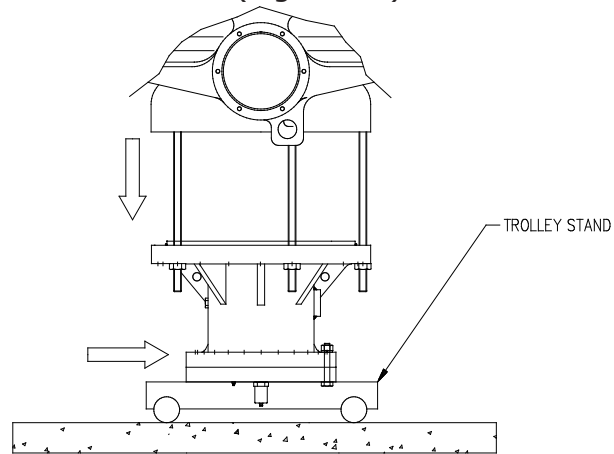

Fig. 6.8.3
6. Loosen the nuts (B) evenly, whilst checking to verify that the bevel gear is perfectly supported by the special washers.
8. Evenly lower the cylinder onto the stand and remove it. (Fig. 6.8.3)